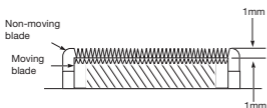

Fig. 4
- Replace the original screws, and lightly tighten. Then align the two blades up, point to point, as per figure 4 below.